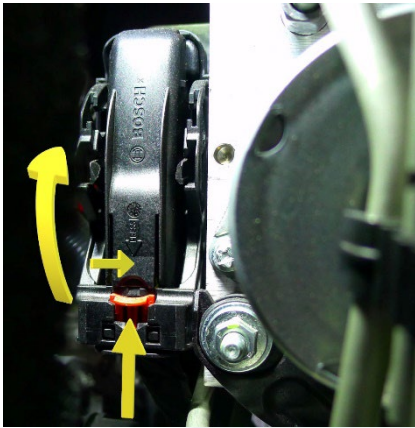
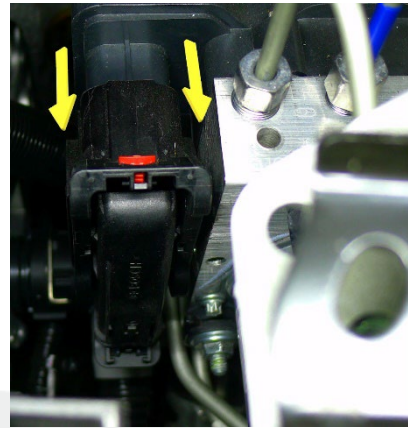

Figure 13
Figure 14
15. Slide the red locking tab, raise the lever (Figure 13), and then remove connector X151 from the HCU (Figure 14).